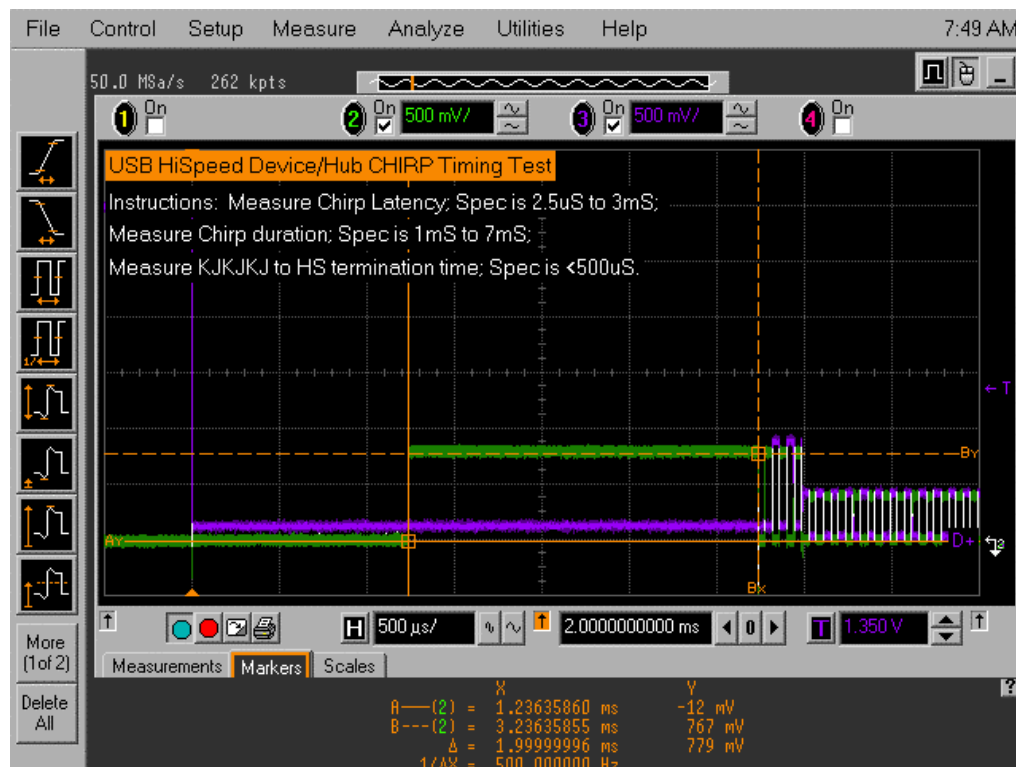

Figure 18. Device CHIRP-K Duration
- b. If in question about this measure, use the markers to make this measure manually, as shown in Figure 18